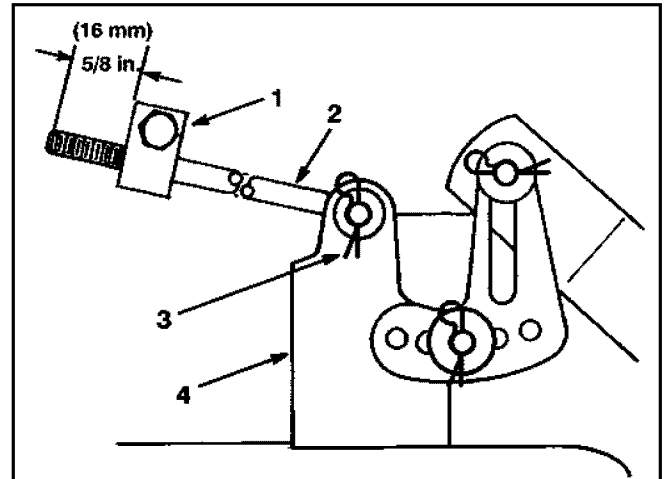

Figure 40 XL32pit2.TIF
2. Measure the length of the rod extending out of the front of the adjusting block on the sides of the chassis (Figure 40). If the rod length is not 5/8 inch (16mm), remove the hairpin cotter and washer from the end of the rod and turn the rod until the 5/8 inch (16mm) dimension is obtained. Then install the end of the rod into the hole in the mower mount and secure it in place with the washer and hairpin cotter. Repeat this process on the other side of the mower.